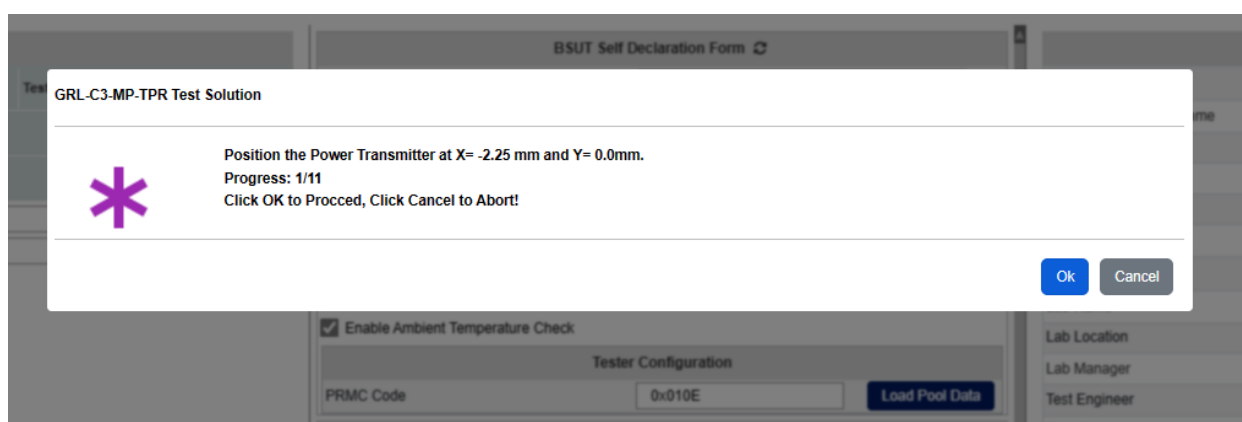

FIGURE 6.11: FIND OPTIMUM COIL POSITION - #6
11. Follow the instructions (as seen in Figure 6.11 below) to align the X-axis and Y-axis values accordingly using the respective knobs. Then click **Ok** to proceed with the next step.